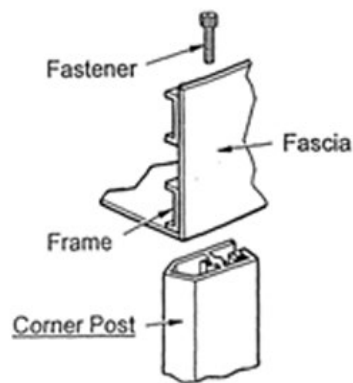

Figure 3.2
- 8) Securely fasten with 5/16" socket cap screws provided as shown in Figures 3.2 and 3.3 (If centre post is provided).